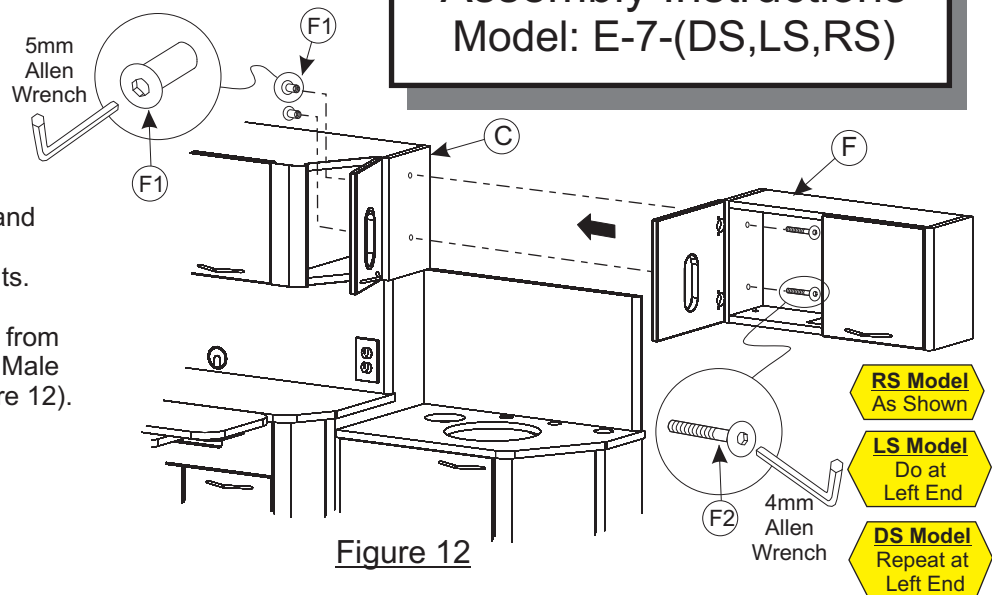

Figure 12
Place Upper Storage (F) into position and secure to the Upper Storage (C) using (2) male/female 1/4-20 Connecting Bolts. From inside the Upper Storage (C) insert (2) Female Connectors (F1) and from inside the Upper Storage (F) insert (2) Male Connectors (F2) and tighten (see Figure 12).